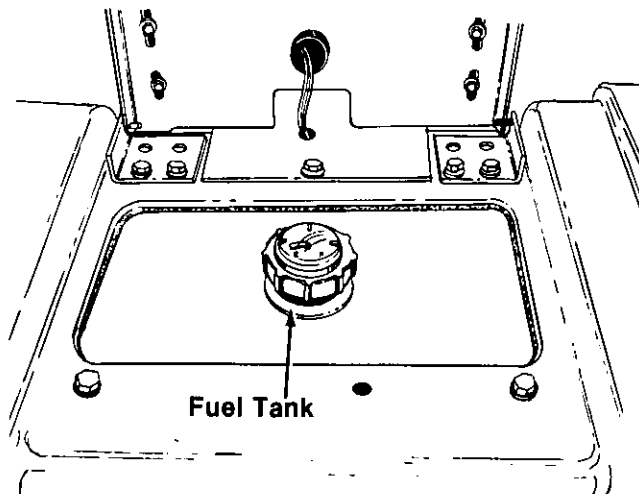

FIGURE 10.
3. Fill the fuel tank with clean, fresh, regular gasoline. See figure 10. Tank is located under the seat.